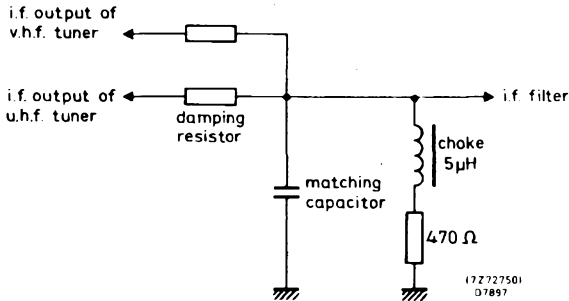

Fig. 8
The tuner needs a d.c. path from the i.f. output terminal (10) to earth, preferably via a choke of approx. $5 \mu\text{H}$ outside the tuner (Fig. 8).
In the case where the tuner is used in combination with a v.h.f. tuner, this choke can be common for both tuners; a resistor in series with the choke can make ineffective the i.f. output circuit of the switched off tuner. For damping the i.f. output circuit and matching the i.f. output impedance of the tuner to the i.f. amplifier, a series resistor and a parallel capacitor as shown in Fig. 8 should be used.